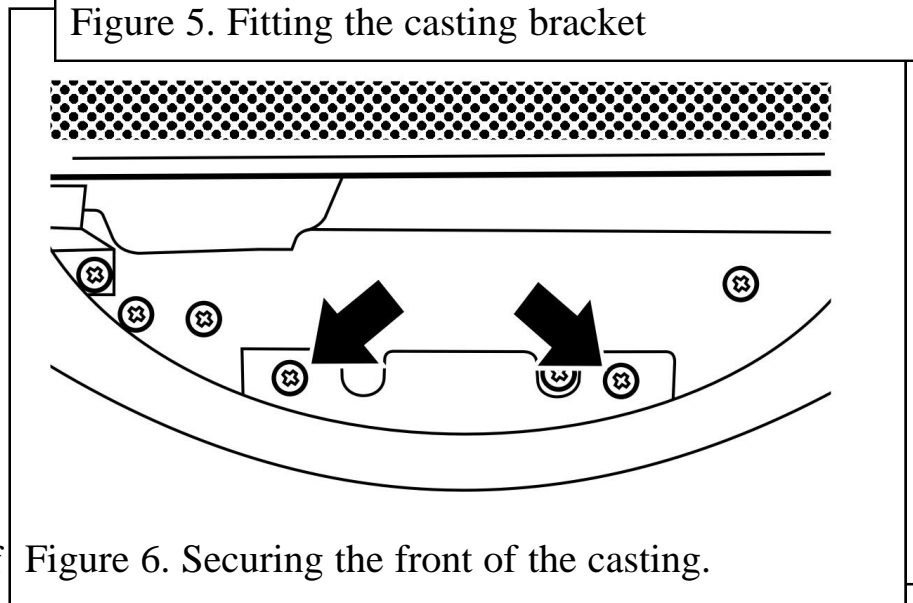

Figure 6. Securing the front of the casting.
- Place the casting onto the top of the burner unit. The bracket should be in front of the burner (See figure 6).
- Secure the bracket in place with the two screws supplied (See figure 6).